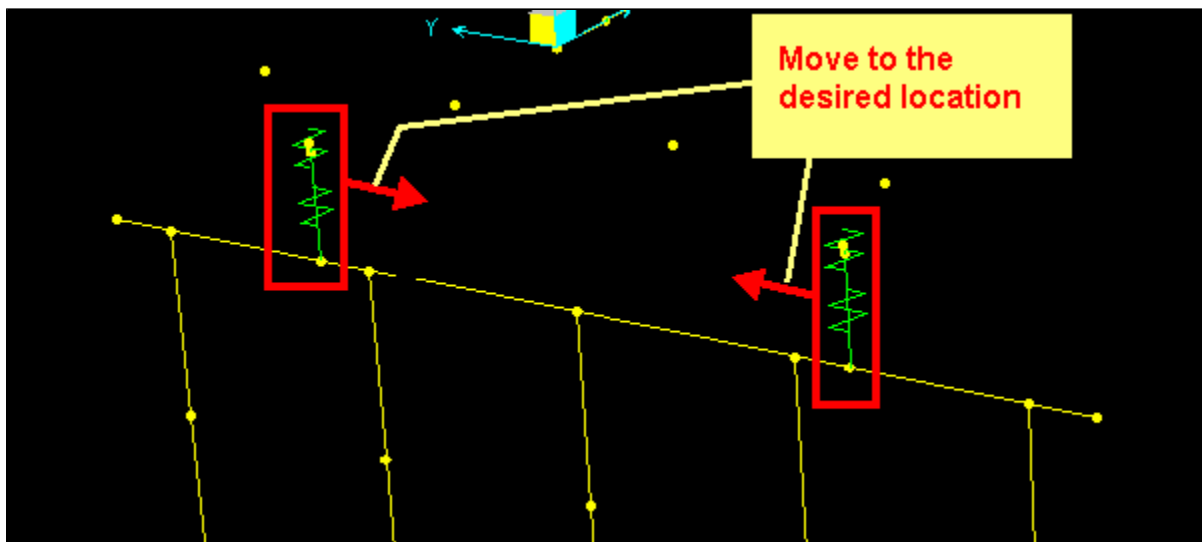

Figure 2 - Move exterior bearings
- Use the Edit > Move option to move the exterior-girder bearing links and associated joints to the location desired along the transverse direction, as shown in Figure 2: